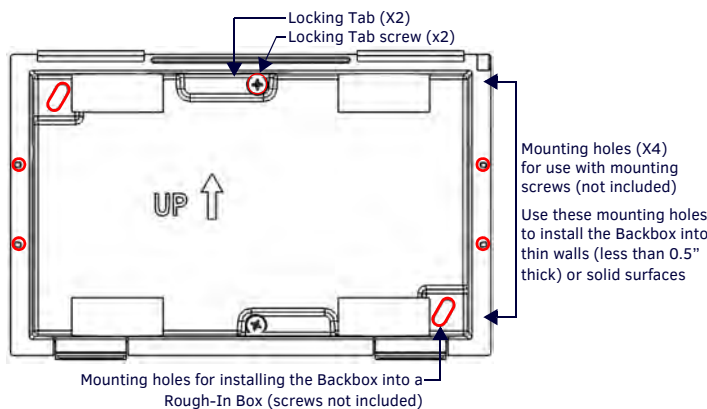

FIG. 2 7" BACKBOX (FRONT VIEW)
The ACB-2107 comes with a clear plastic Backbox (FIG. 2). This Backbox can be used to mount the touch panel into most standard wall materials. The Backbox can also be used to mount the panel into other mounting options.
- To ensure a stable installation, the thickness of the wall material must be a minimum of .50 inches (1.27cm) and a maximum of .875 inches (2.22cm). The mounting surface should also be smooth and flat. For thin walls or solid surfaces, use mounting screws (not included) - see FIG. 2.